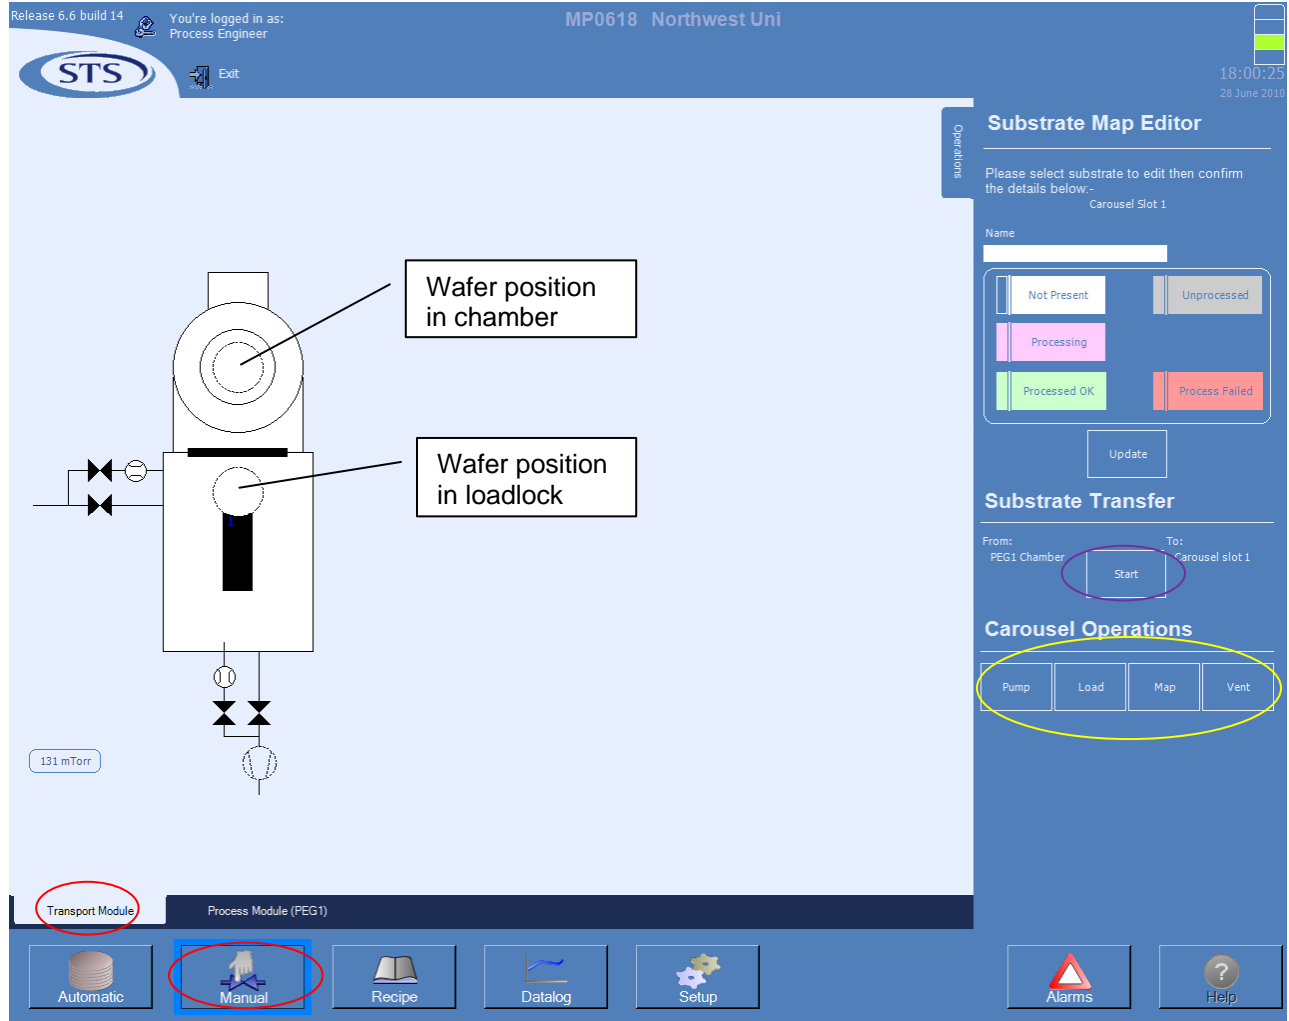

Figure 3: Loading/unloading a wafer.
- a) Go to the loading/unloading screen shown in Figure 3 by selecting Manual and then Transport Module (circled in red).
- f) After this operation completes, click on the wafer on the loading arm (Figure 3) followed by its position in the chamber. Then click Start button (circled in purple). This will transfer the wafer from the loadlock to the chamber.
- a) Go to the screen shown in Figure 3 by selecting Transport Module.
- h) Now you can go back to the screen shown in Figure 3 and you will find your recipe listed with other recipes. You can select it and run it if desired.